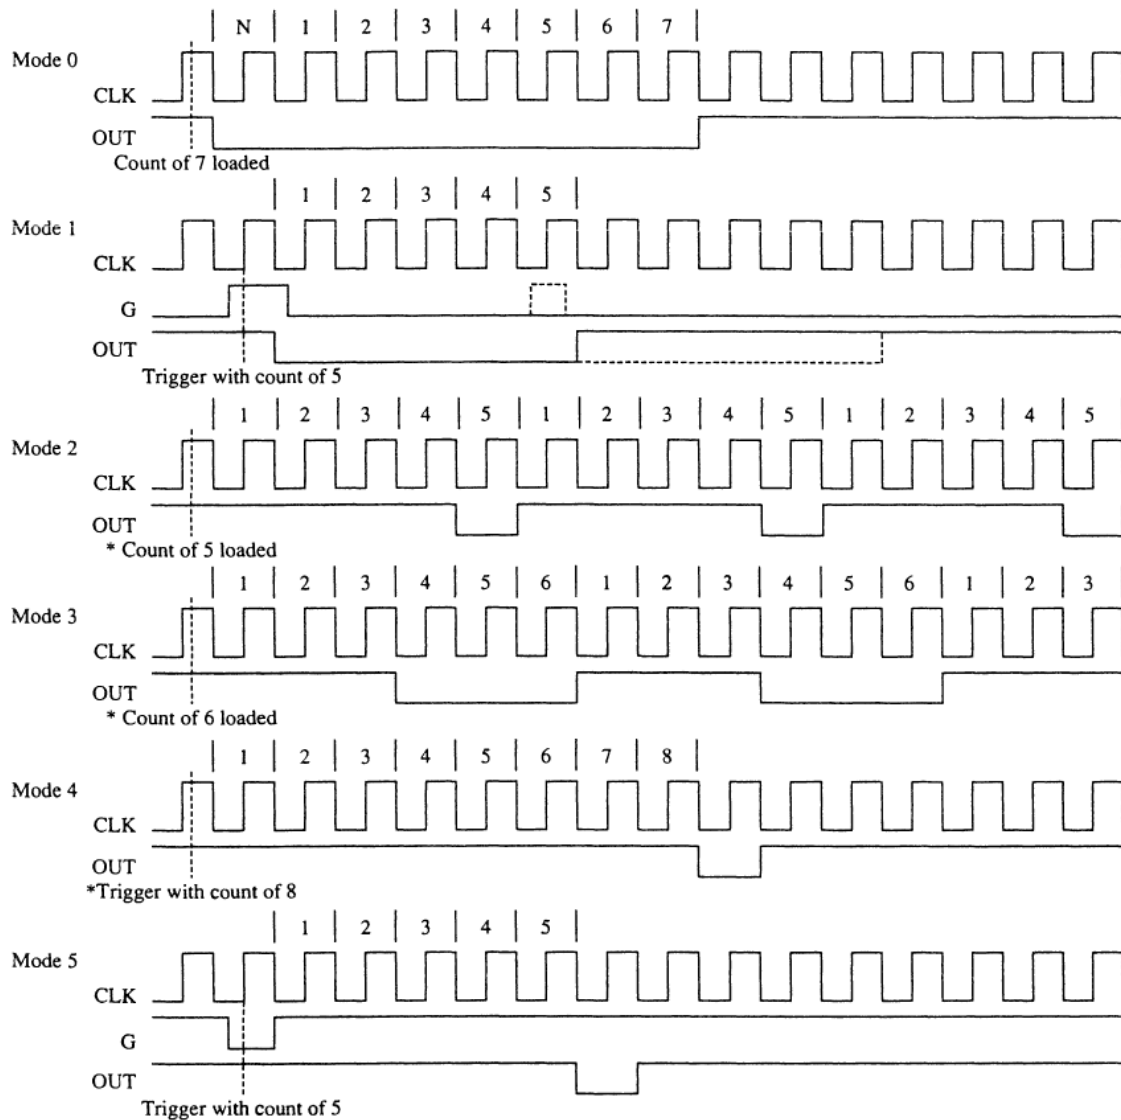

FIGURE 10-35 The six modes of operation for the 8254-2 programmable interval timer. *The G input stops the count when 0 in modes 2, 3, and 4.
Modes of Operation. Six modes of operation (mode 0 – mode 5) are available to each of the 8254 counters. Figure 10-35 shows how each of these modes functions with the CLK input, the gate (G) control signal, and the OUT signal. A description of each mode follows.